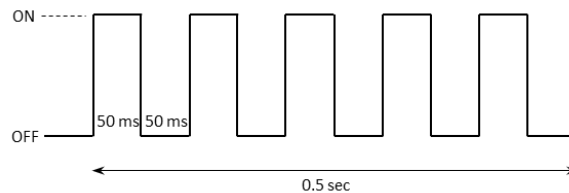

Figure 1-6: The GREEN or RED LED Pattern After the POST
- a. If the POST passes, **GREEN** is toggled ON and OFF every 50 ms for 0.5 sec, as shown in Figure 1-6. In this case, the LED pattern proceeds to step 4.
- b. If the POST fails, **RED** is toggled ON and OFF every 50 ms for 0.5 sec, as shown in Figure 1-6. In this case, the device restarts and the LED pattern begins again at step 1 after approximately 4 s.